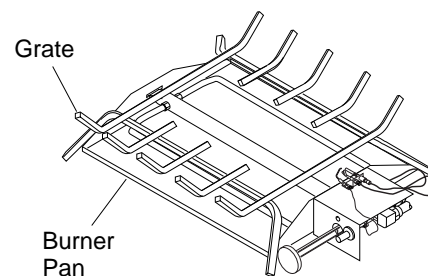

Figure 17 - Installing Grate (Pan Material Not Shown)
1. Place the grate over the burner pan. The grate should "lock" into place over the corners of the pan (see Figure 17).